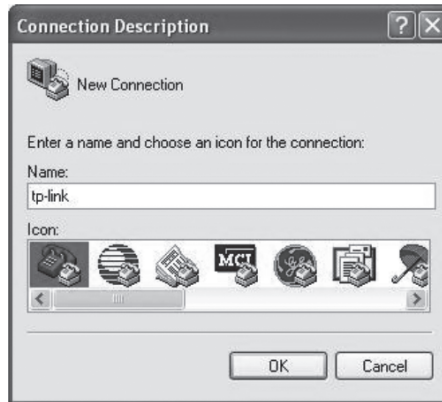

Figure 6-5 Connection Description
3. The Connection Description Window will prompt as Figure 6-5. Enter a name into the Name field and click OK.